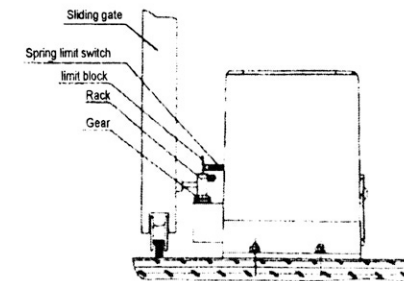

Fig.5
- * Install the limit block as shown in Fig.5. The spring limit switch and blocks are used to control the position of the gate.